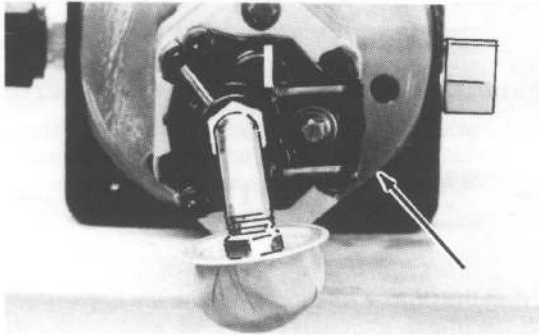

Figure 3-2
7. Unscrew the filter screen (hold it by the metal cover, not by the screen) and clean it with a suitable solvent. Blow dry with compressed air from the inside. See Figure 3-2.